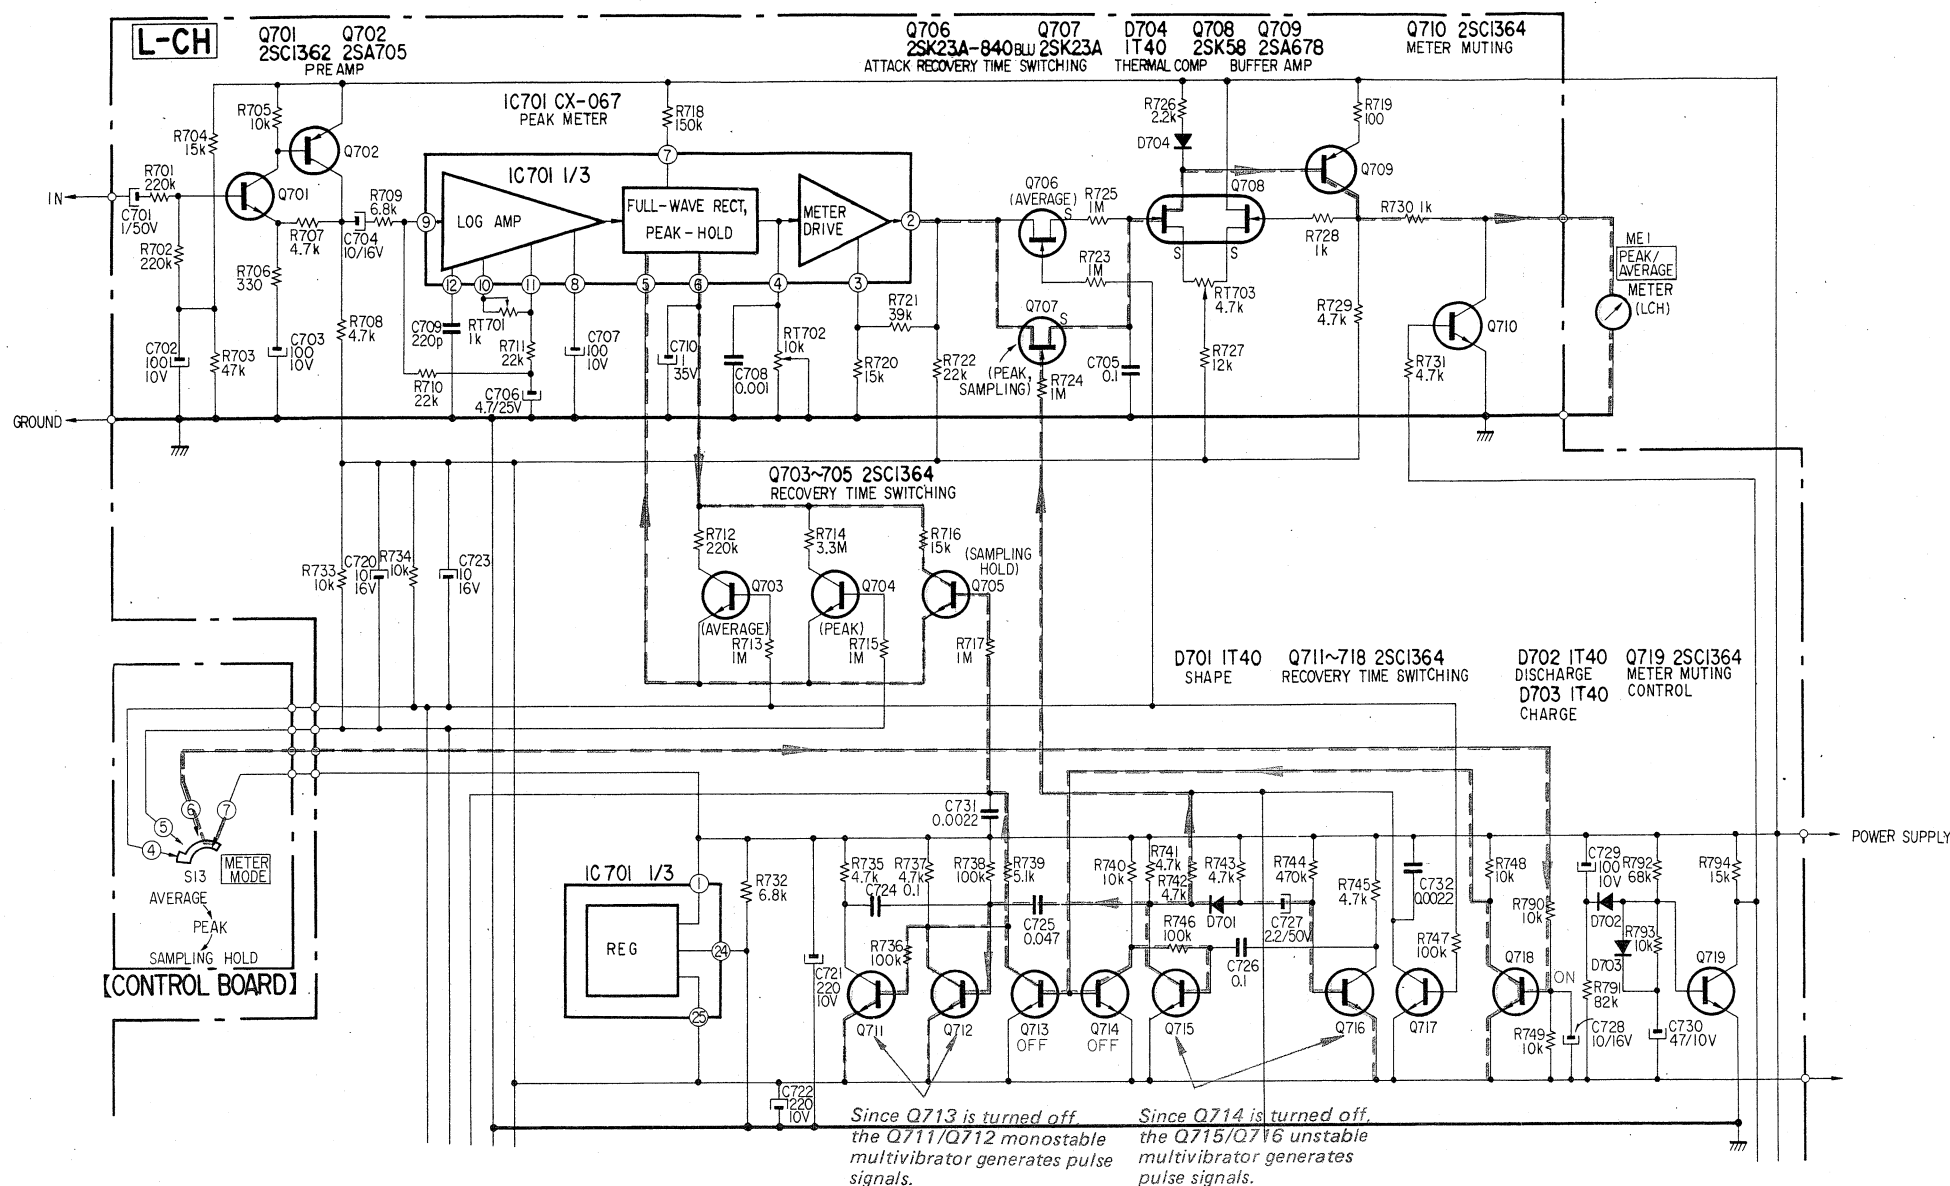

Fig. 5
- * During sampling hold mode, Q705 turns on every 0.5 seconds, and C710 discharges immediately through R716 (15 k Ω) (see Fig. 5).
- * During sampling hold mode, Q707 is turned on (Fig. 5) resulting in the same rapid charge-up time as during peak mode.
3. Circuit Operation and Meter Display During Sampling Hold Mode (See Figs. 5 & 6)
4. Meter Drive Circuit (Fig. 5)
5. Meter Muting Circuit (Fig. 5)